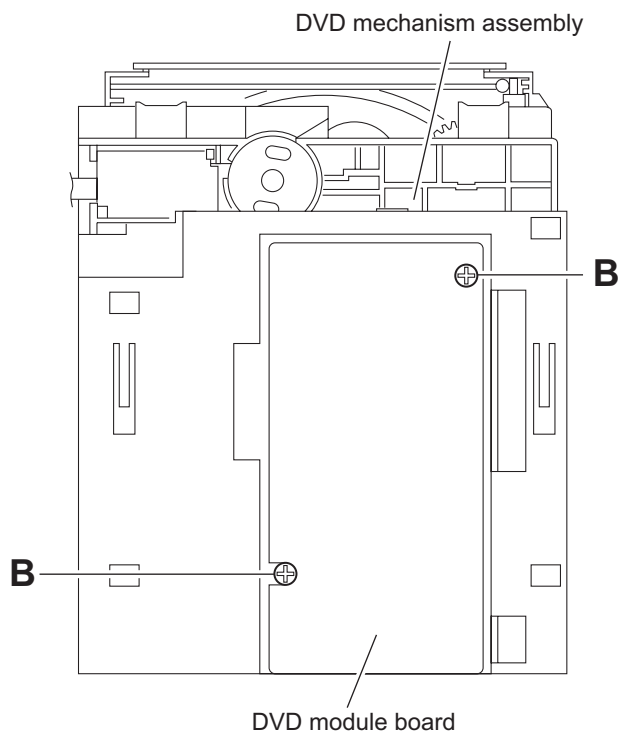

Fig.2
- (2) Remove the two screws **B** attaching the DVD module board. (See Fig.2)